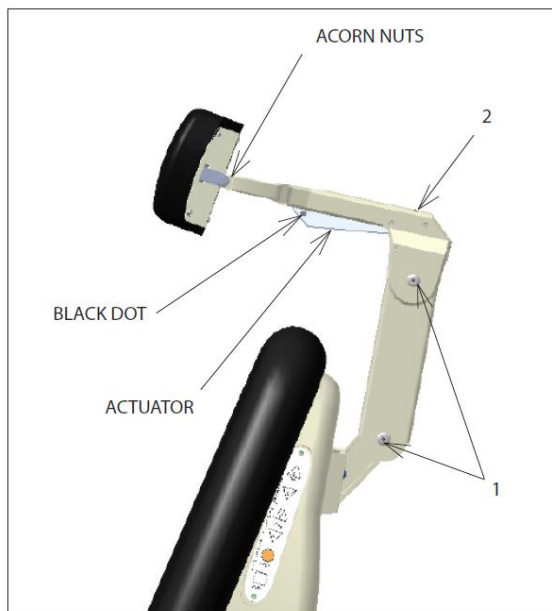

FIGURE 2
There are three adjustments provided on the No. 18, 22, 26 headrest. The first is the tension on the pad rotation. By tightening the two hex acorn nuts on the pad pivots with a 3/8" open end wrench, the tension will be increased. To adjust the drag on the pivots of the articulating arm, loosen the set screw in the center of the pivot (Figure 2, item 1) using the provided 3/32" hex key wrench. Next, tighten the pivot screw on the other side of the pivot, using the provided 1/8" hex key wrench. Now, retighten the set screw to retain the pivot screw at the new adjustment. Either pivot may be adjusted. **NOTE: Insure not to over adjust. You want to remove as much side to side movement as possible. Test by placing the headrest in a position where the black dot is not fully exposed. This means the lock is between gears. Then simulate the force of a head being placed in the pad. The headrest should find a locking position. If it does not then back out the adjustment to allow a little side to side movement.**
The third adjustment is for proper clearance of the block dot to indicate that the headrest is properly locked. If the dot does not fully clear the lock housing when the headrest is locked securely, turn the set screw located at the top of the lock housing (Figure 2, item 2) counterclockwise until the dot on the actuator is fully exposed.